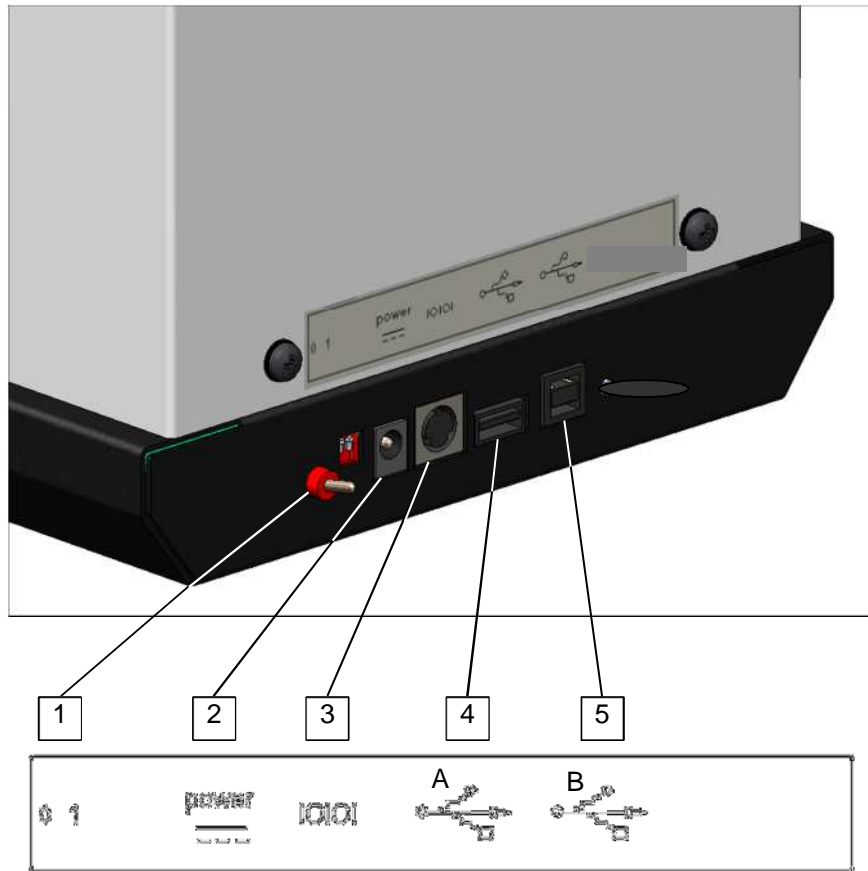

Figure 5.2 Rear Panel and Label detail
6. Position the M926S so that there is clear access to the on/off switch (Item 1, Figure 5.2, p.12).
1. A Serial Cable (926 09 051) is provided if you wish to use an external device. The small, round end of the cable fits into the socket on the rear of the M926S (Item 3, Figure 5.2, page 12) and the other end into the serial input socket of the external device - a printer or a computer serial interface.
The M926S also has USB B port that enables results to be sent to computers that do not have an RS232 serial comms. port. A USB cable (001 09 006) is provided. The squarer end fits into the socket on the rear of the M926S (Item 5, Figure 5.2, page 12). On the PC in Device Manager under Ports (COM & LPT) the M926S will typically appear as - *926 Series Chloride Analyser (COM7)*.